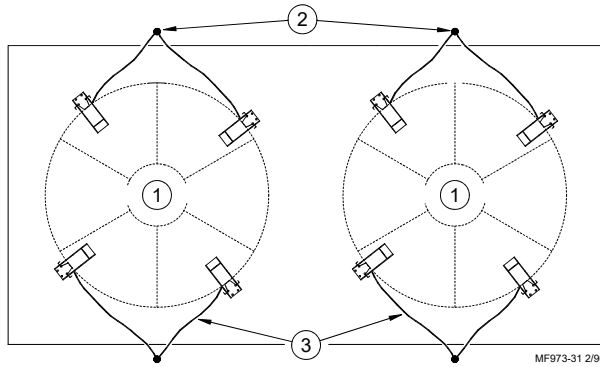

Figure 32. Ground Rod placement for multiple bin installations (top view).
- Two (4)-legged bins, with separate scales systems, requires (4) ground rods. Two legs should be attached to each ground rod. **See Figure 32.**